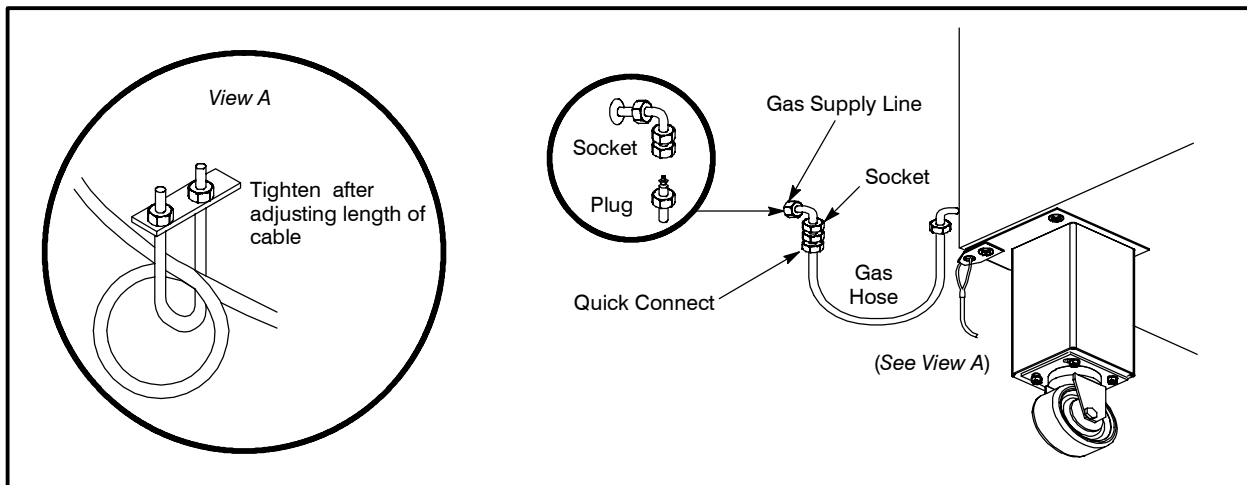

Figure 19
- The restraint should be short enough to prevent any strain on the connector. See Figure 19 View A for length adjustment detail.